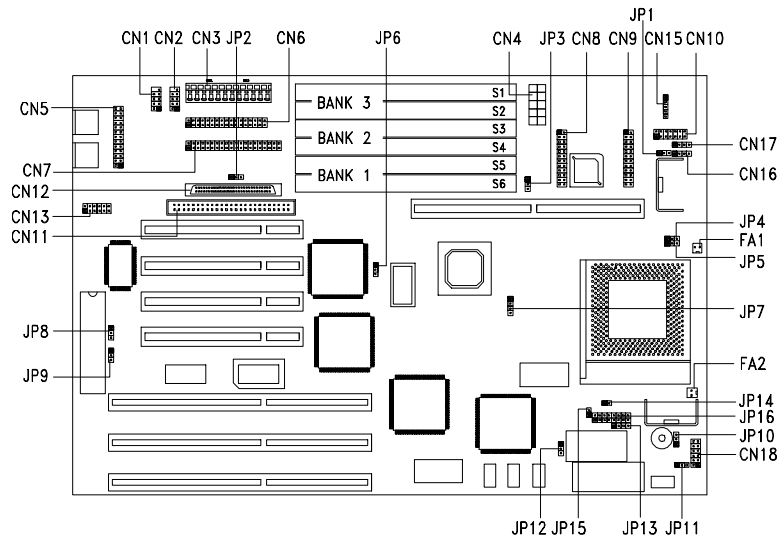

Figure 2-2 Jumper Locations
Figure 2-2 shows the jumper locations on the system board. The blackened pin on a jumper represents pin 1.
4. Change the settings of jumper JP1 for the correct CPU voltage and jumpers JP4, JP5, and JP7 for the CPU frequency. Refer to Table 2-1 and Figure 2-2 for jumper locations and settings.